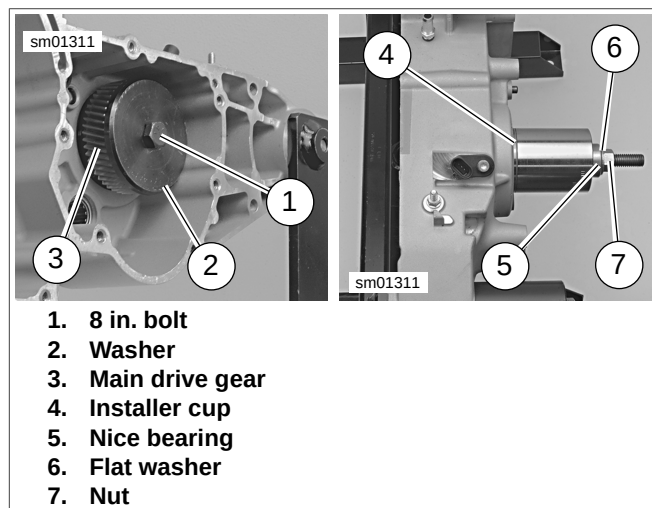

Figure 5-85. Installing Main Drive Gear (typical)
- See Figure 5-85. Insert 8 IN. BOLT (Part No. HD-35316-4A) (1) through WASHER (Part No. HD-35316-7) (2) and main drive gear (3). From inside of case insert bolt with washer and main drive gear through inner race of main drive gear bearing.
- At outside of case, place INSTALLER CUP (Part No. HD-35316-12) (4), NICE BEARING (5), FLAT WASHER (6) and NUT (7) over end of bolt. Tighten nut until main drive gear bottoms against main drive gear bearing.